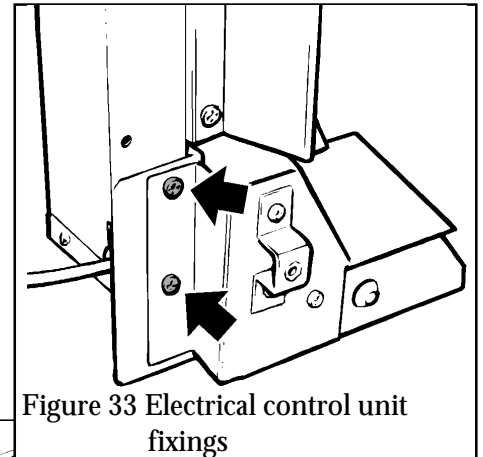

Figure 33 Electrical control unit fixings
13.9.2 Detach the control unit from the convection box left side flange by removing two screws (see figure 33). Carefully pull the unit slightly forward.